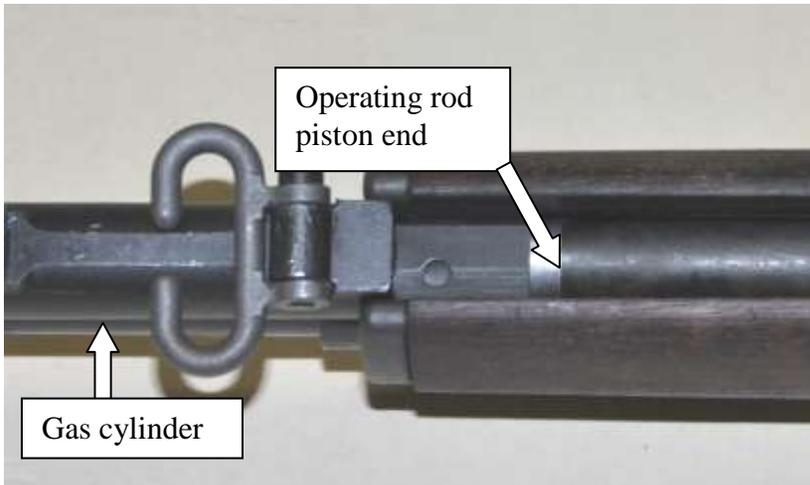
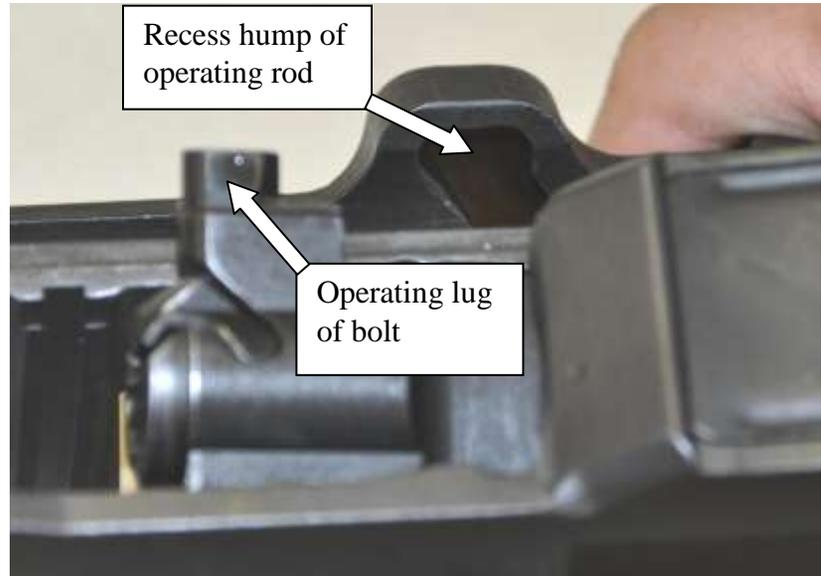

Figure 37 -Operating rod piston end insertion
Figure 38 -Recess in the hump and operating lug of bolt
- 4) To replace the operating rod, place the piston end into the gas cylinder while weapon is inverted (fig 37). Rotate the weapon upright and align the operating rod so that the recess in the hump fits over the operating lug of the bolt (fig 38 and 39). Move the operating rod fully rearward and then forward until the bolt is closed.